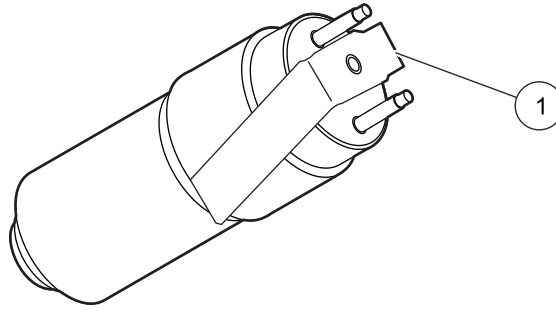

Figure 13 Removal of the bracket
6. Push the bracket to one side and remove it from the pump (refer to Figure 13 on page 31).